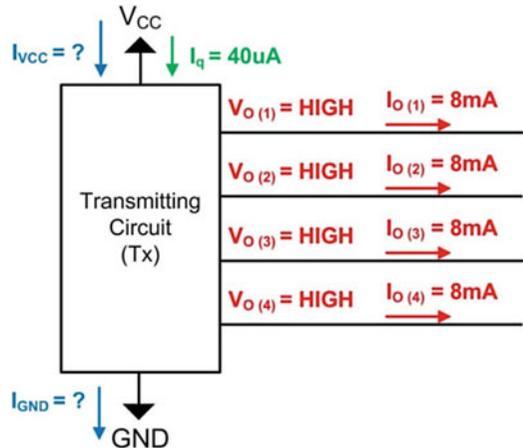

Fig. 3.36
- 3.2.9 For the driver configuration in Fig. 3.36, give the current flowing through the V_{CC} pin.
- 3.2.10 For the driver configuration in Fig. 3.36, give the current flowing through the GND pin.